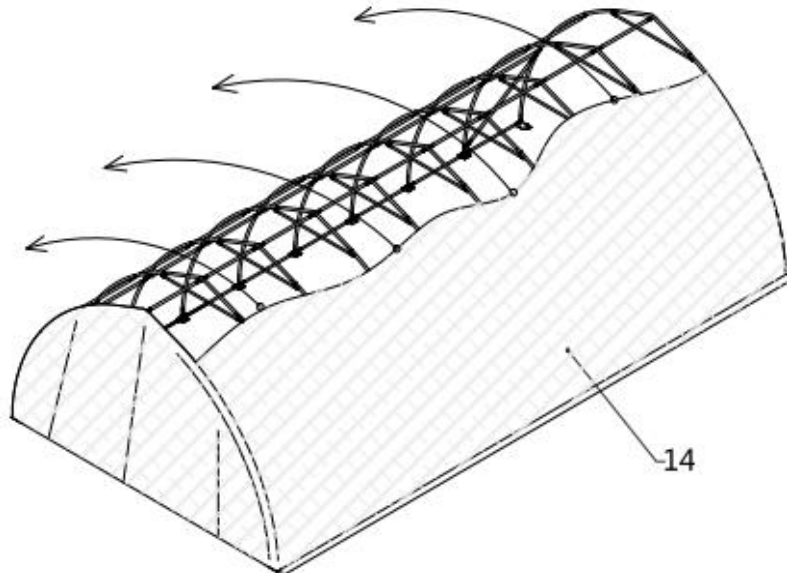

Figure 8
- With a few people to pull the cover (#14) over the top of the structure, a couple of people standing inside on ladders to push upwards will help to move the cover smooth without any damage (refer to figure 8).